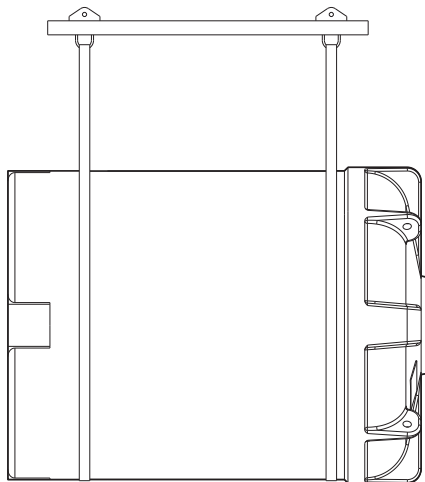

Figure 1
- Larger tanks should be moved, loaded and unloaded by crane with a spreader beam and two nylon slings of appropriate size and rating positioned on each tank as shown in Fig 1.